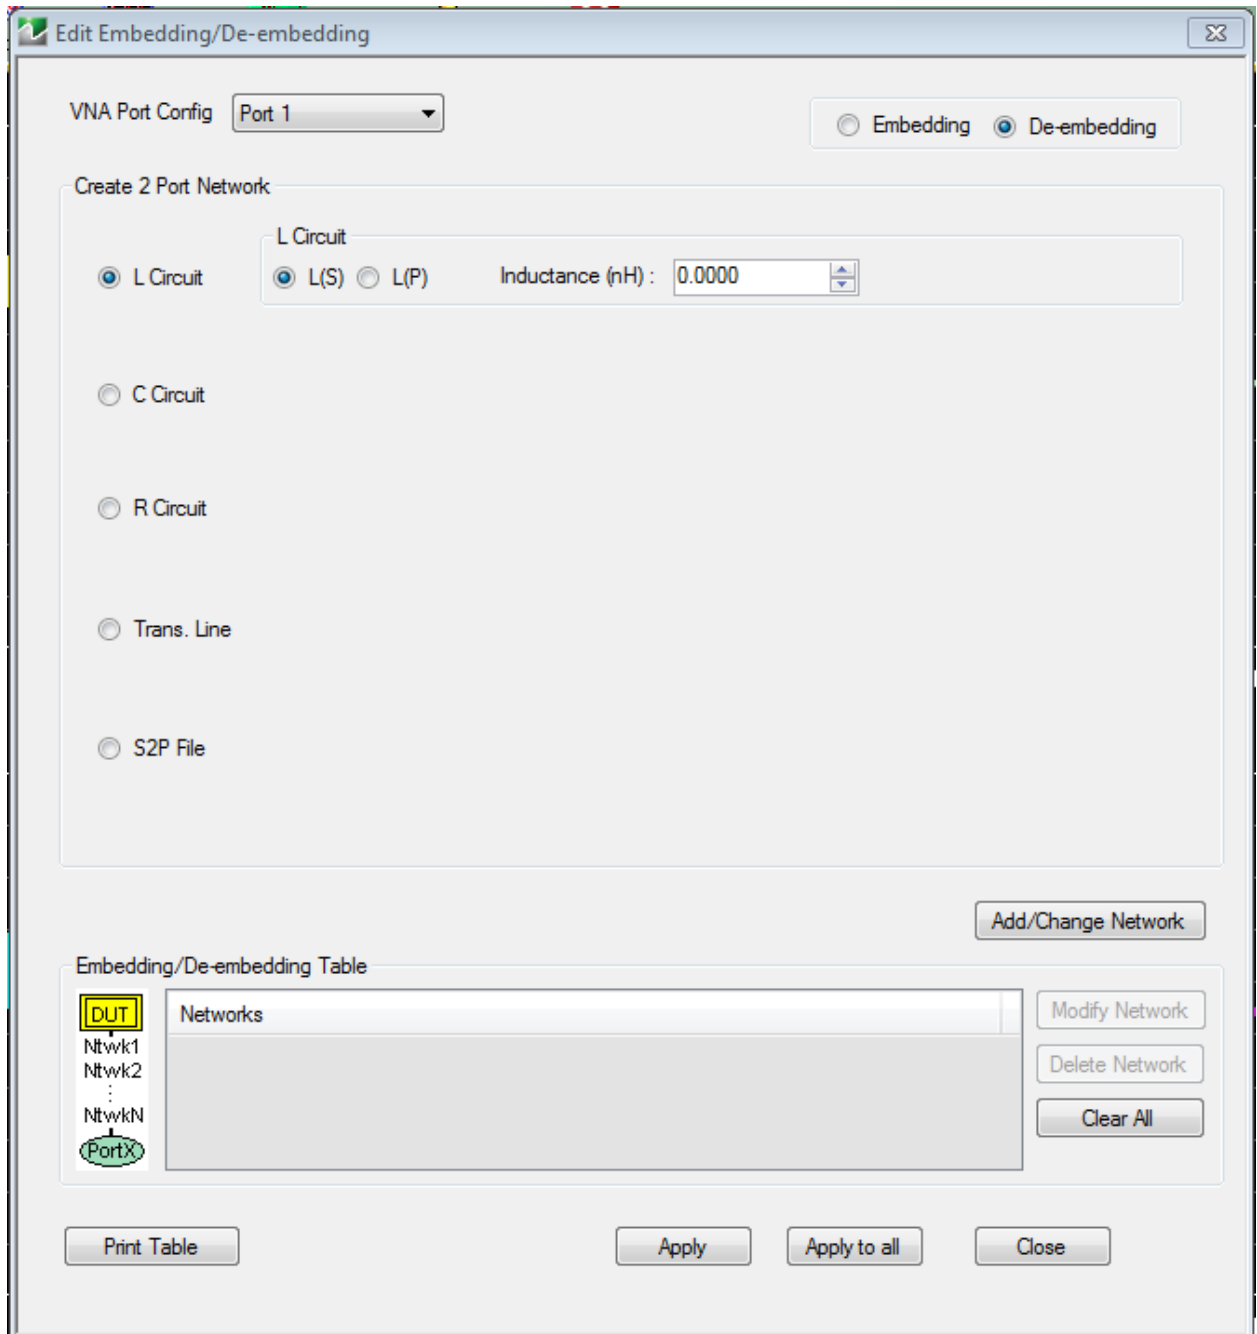
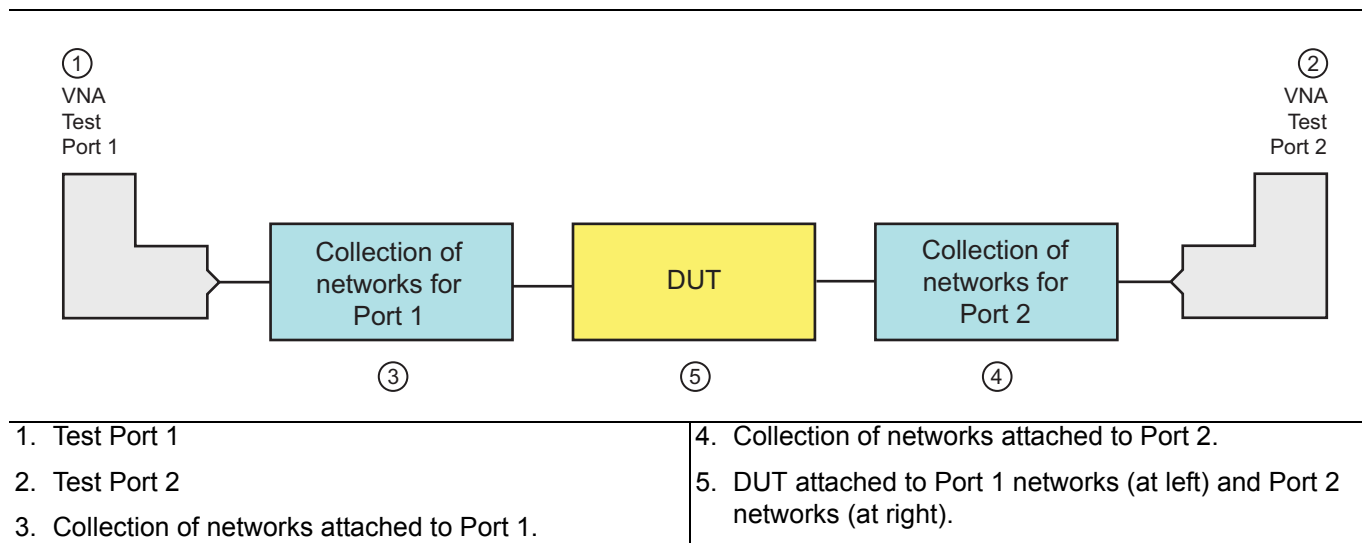

Figure 8-3. EDIT EMBEDDING/DE-EMBEDDING (2 PORT DUT) Dialog Box - L Circuit
Figure 8-4. Global EDE Diagram Showing Independence of Port Networks
In addition, there are some clerical tasks to describe including the order of virtual operations and some conversions to other parameter formats (impedances and admittances for example). The measurements menu that contains the majority of these functions is shown below (Figure 8-3, “Reference Plane Control” on page 8-12). Parameter conversions are a per-trace function (as opposed to the others which are per channel) and is listed under the DISPLAY menu.
The first network entered is always nearest the DUT. The pull-down menu at the top of Figure 8-3 shows which port's networks are currently being edited. The diagram in Figure 8-4 illustrates the independence concept.
In the Edit Embedding/De-embedding dialog box in Figure 8-3 above, the radio button for entering an LC network has been selected. An additional version of the dialog box is shown in the figure below where a C(S) network has been selected.